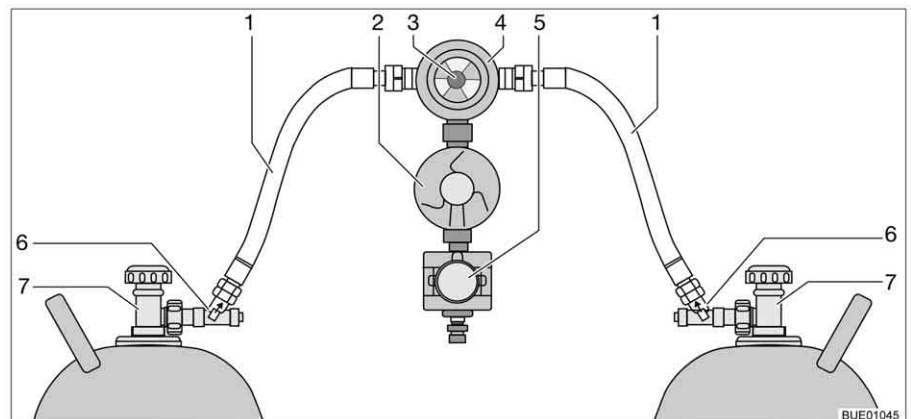

Fig. 125 Crash protection unit switching facility
The crash protection unit consists of two flow restrictors with manual release button (Fig. 125,6) a reversing valve (Fig. 125,4) with pressure regulator (Fig. 125,2), an electrovalve (Fig. 125,5) and the operating unit with tricoloured LED. The reversing valve is installed between the two gas tubes (Fig. 125,1).
Use the knob (Fig. 125,3) on the reversing valve to select which of the gas bottles is to be used as a primary bottle and which is to be used as a reserve bottle.
Only the electrical functions can be switched at the operating unit (Fig. 126). The regulator taps on the gas bottles (Fig. 125,7) and the release buttons (Fig. 125,6) must be opened manually.
- Open the regulator taps of the gas bottles (Fig. 125,7).
- Press the release buttons (Fig. 125,6) successively for 10 seconds.
- Use the knob (Fig. 125,3) on the reversing valve (Fig. 125,4) to select the gas bottle which is to be the primary source of gas (primary bottle). Always turn the knob as far as it will go.
- Close the regulator taps of the gas bottles (Fig. 125,7).